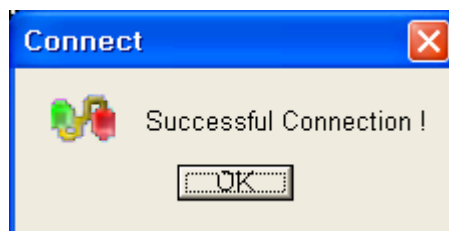

Figure 5.
13. Click the 'Connect to...' button and the 'Successful Connection' Popup box will appear as shown in Figure 5.